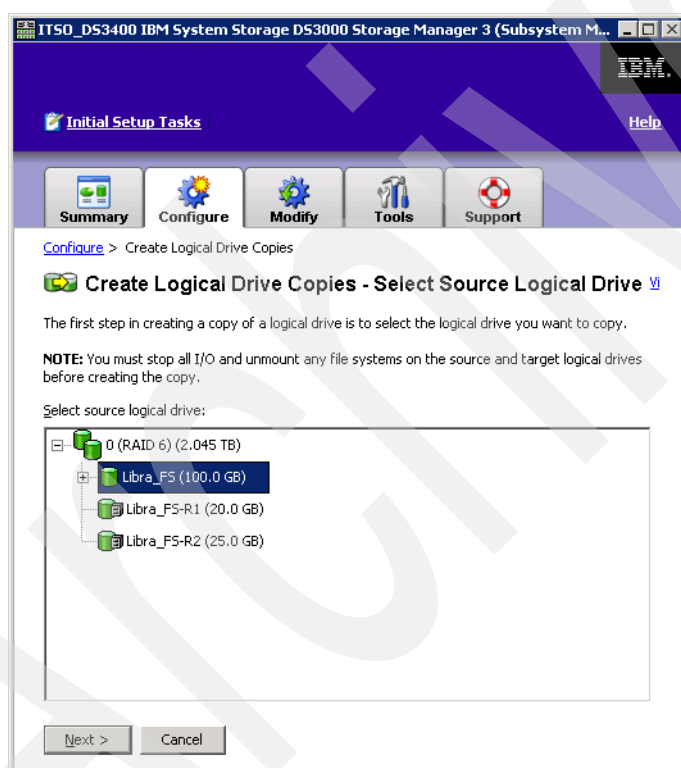

Figure 9-74 VolumeCopy - Select Source Logical Drive
4. Figure 9-74 appears, where you start the wizard. Here you choose a source logical drive.